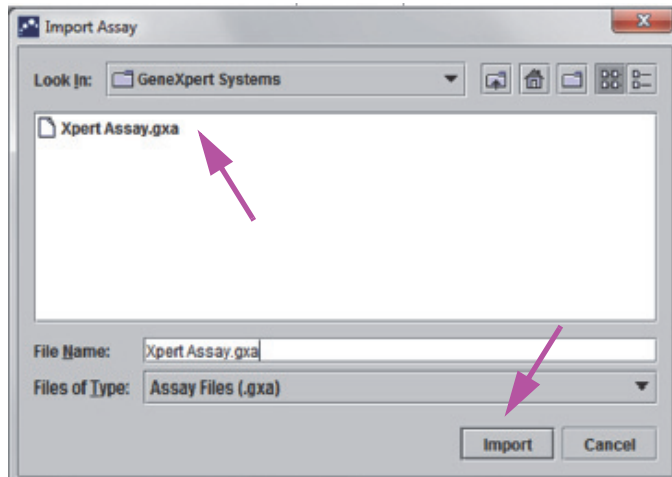

Figure 2-51. Import Assay Dialog Box
2. Click **Import**. The Import Assay dialog box appears. See Figure 2-51.